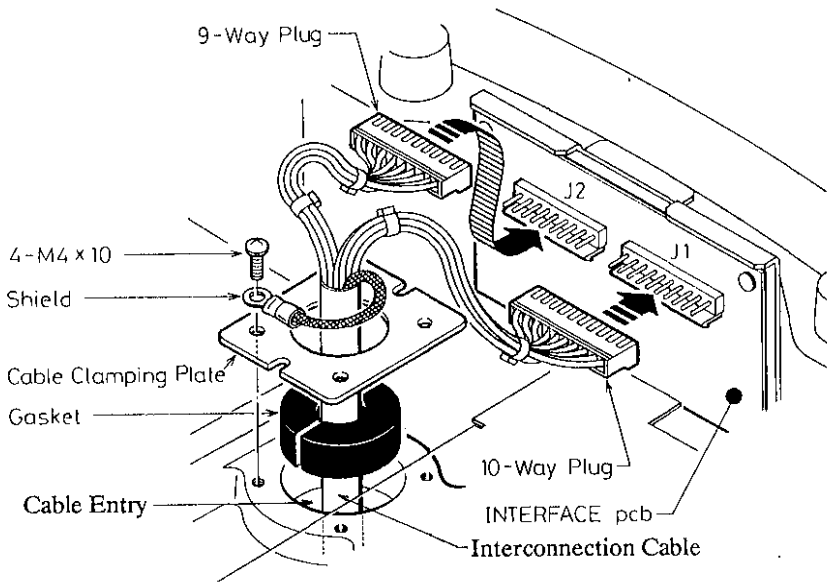

Fig.6-3 Cable Connection and Grounding
- 4. Secure the cable with the cable clamping plate and gasket. Ground the shield cable by using one of the fixing screws for the cable clamping plate. See Fig.6-3.